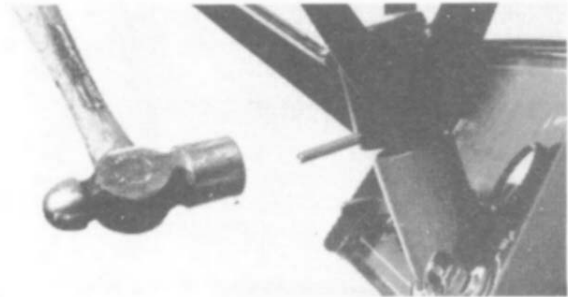

Fig.4
5. Secure by clipping an ‘E’ Clip into the groove on the pivot rod. See Fig.4.